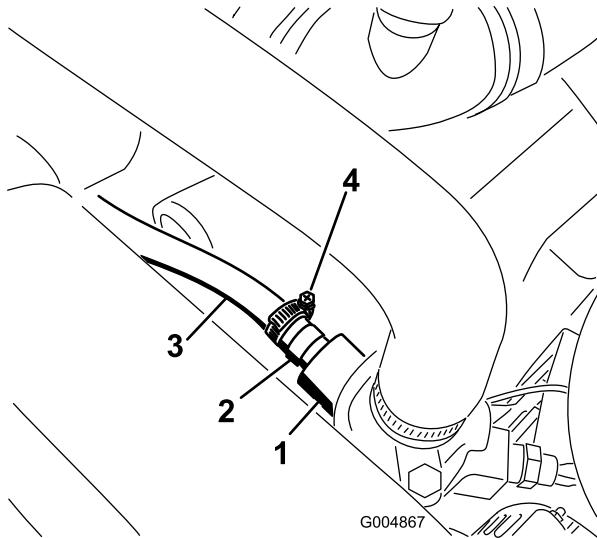

Figure 22
17. Install the hose adapter fitting into the engine thermostat housing (Figure 22).
18. Connect the 57 cm (22-1/2 inch) length of hose to the engine thermostat housing adapter fitting (Figure 22). Secure the hose to the adapter fitting with a hose clamp. Route the hose under the air cleaner as shown in Figure 22. Install a hose clamp onto the hose and connect the hose to the quick coupler (Figure 22). This is the pressure hose.
Note: Route the hoses away from any hot, rotating or sharp objects. Secure the two coupler hoses together with a cable tie as shown in Figure 22.